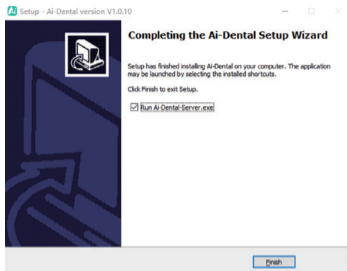

Figure 10
3.1.9 After the software is installed, click the “Finish” button, as shown in Figure 10: